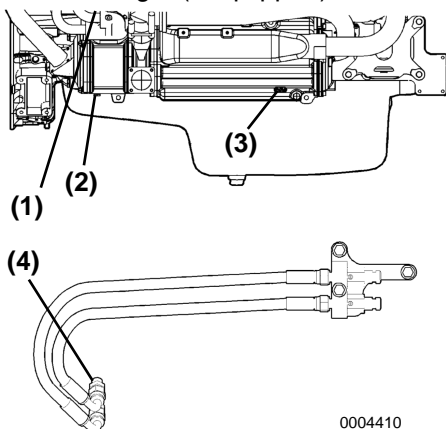

Figure 21
- Open the two drain taps on the two hoses **(Figure 21, (4))** fastened in the side cover on the right side of the block **(Figure 21, (1))**
- Open the drain tap **(Figure 21, (2))** located on the lower left side of the block
- Remove the two plugs **(Figure 21, (3))** below the heat exchanger (if equipped).
3. Close the drain taps **(Figure 21, (2))** and reinstall the heat exchanger plugs **(Figure 21, (3))** (if equipped).
4. Fold the hoses **(Figure 21, (4))** and attach them to the bracket **(Figure 21, (1))**.